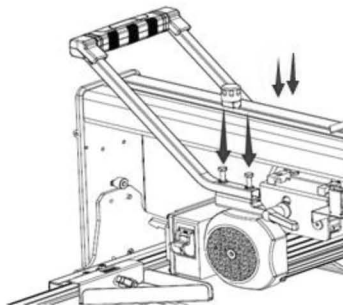

Fig.1
•Assemble the motor handle (Fig.1)
1. Use the 4 pcs hex screws M6*25, 4 pcs spring washer $\Phi 6$, 4pcs $\Phi 6.3 \times 16$ to fix the motor handle onto the both side of motor as shown Fig.1, each side need 2pcs screws, please fix the screws on both side.